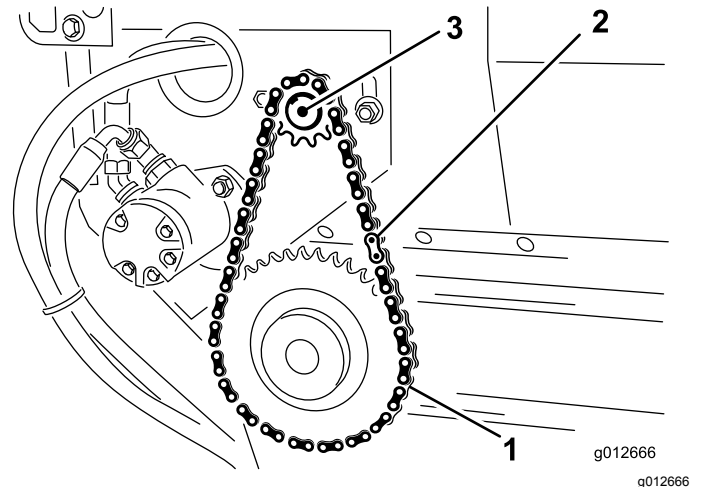

Figure 32
1. Assemble the chain onto the small sprocket and secure the chain with the master link (Figure 32).